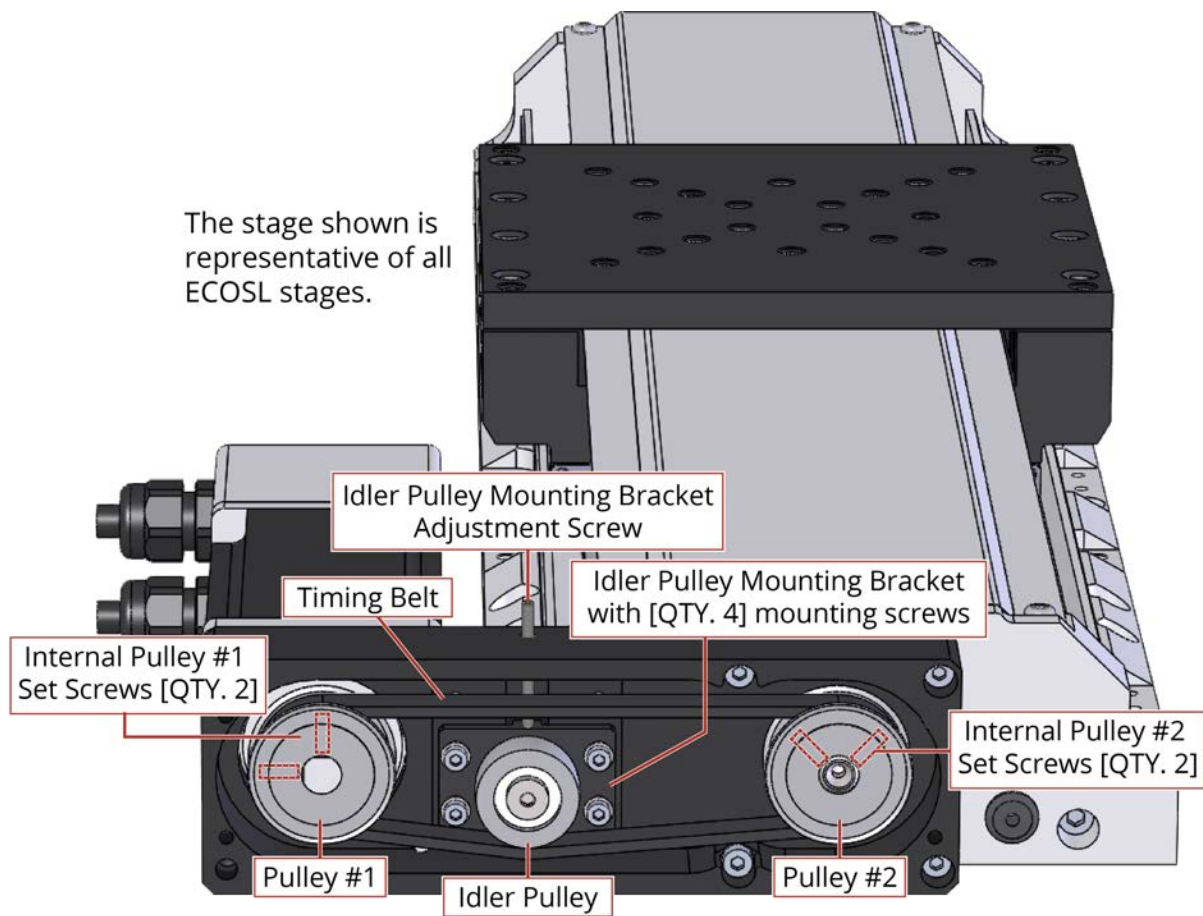

Figure 4-8: Foldback Motor Part Callouts
3. Check that the pulleys are tight on their respective shafts (Figure 4-8).